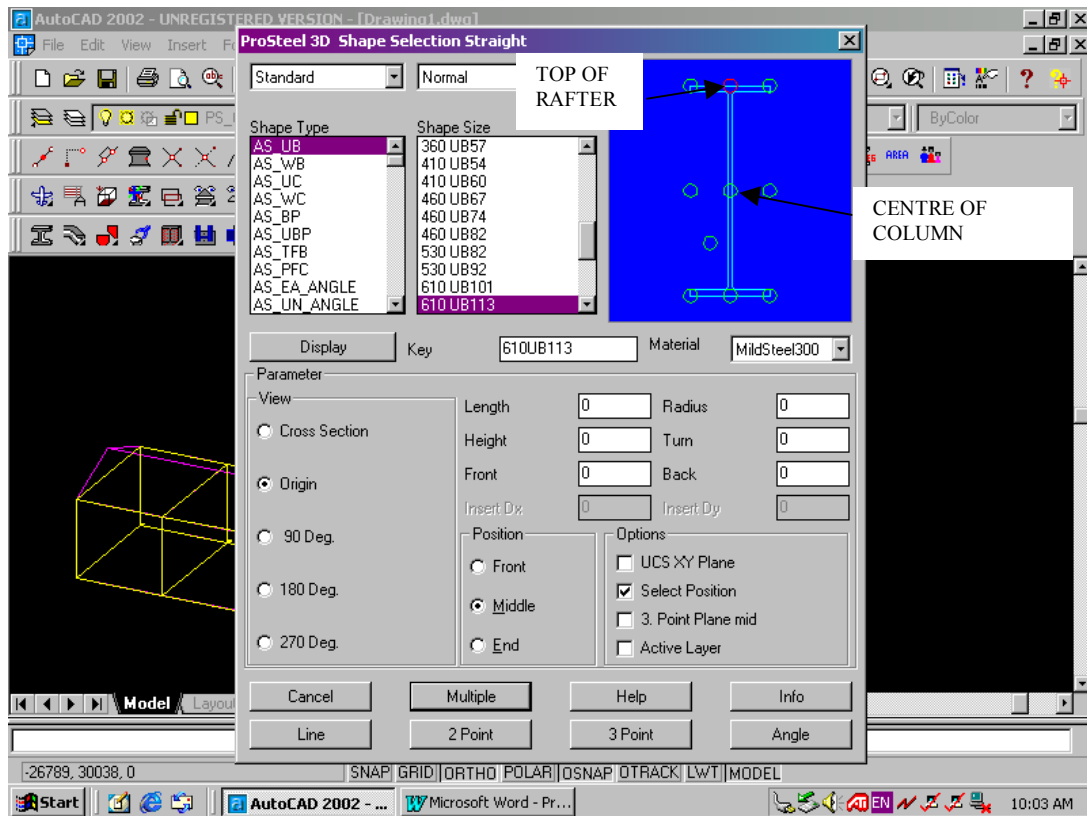

Fig 6
5. I have found it easier to place roof members to the mid point top of steel and columns to the centre point as per FIG 6
6. Once the wire frame basic shape has been created we can start adding members to our line. This is achieved by selecting our SHAPE icon that looks like a steel section, which is the first icon on the first tool-bar above our drawing window in Fig 6. It will then open a dialog box as per Fig 6.
7. Add members to lines by clicking on the line. You can also add by selecting two points and then click on the two points you want. You will be prompted for direction. Providing you have it set for origin as per Fig 6 then it should come in at the right orientation. Otherwise you can rotate it by clicking anywhere on the screen and it will rotate 90° per click. Press enter when ready and it will then ask for another line to add a member to. If you want to add to another, click the next line, otherwise press enter and this will finish the command.